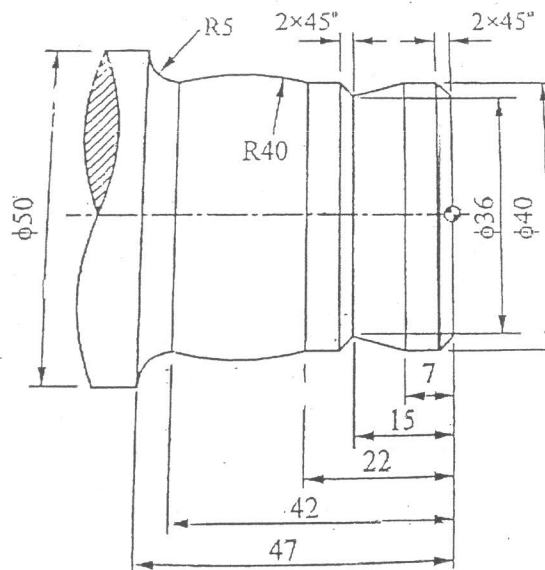

Figure 1
- (1) Question No.1 is compulsory
- (2) Attempt any **four** questions out of remaining **six** questions
- (3) Figures to right indicate full marks
- (4) Assume suitable data if **necessary**.
- (5) Notations carry usual meaning.
- Q.1 (A) Write short note on significance of rapid prototyping in product development and testing. 06
- (B) Write short note on automated material handling and storage systems. 07
- (C) Find the equation of a Bezier curve which is defined by the four points as  $P_0(2,2,0)$ ,  $P_1(2,3,0)$ ,  $P_2(3,3,0)$  and  $P_3(3,2,0)$  and also find the points on the curve for  $u=0, 0.25, 0.5, 0.75$ , and 1. 07
- Q.2 (A) Write a part program using G and M codes for finishing a forged component as shown in Figure 1. Assume the speed and feed on the turning center as 500 rpm and 0.3 mm/rev respectively. Furthermore, assume 1mm material is to be removed radially from external diameter. 10